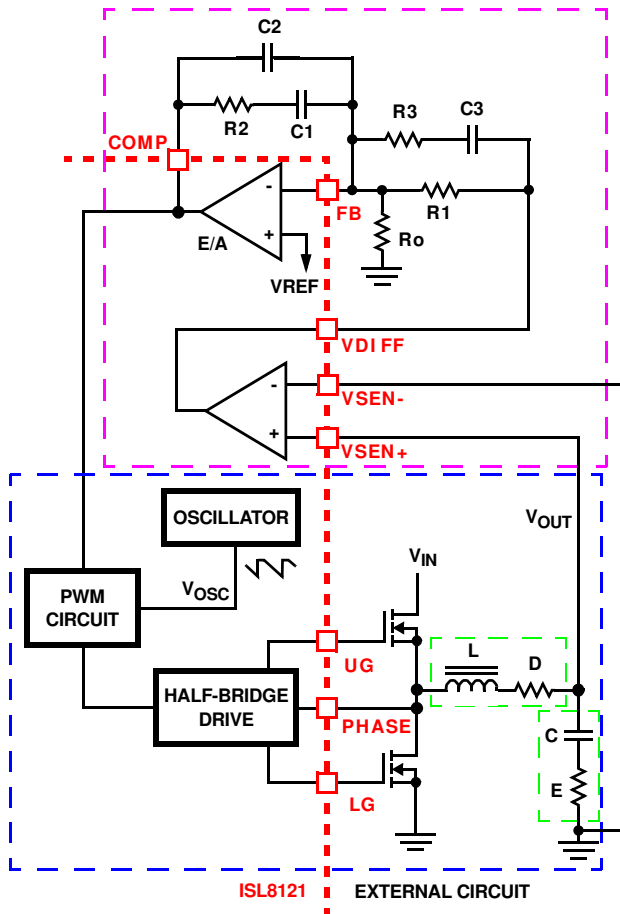

FIGURE 24. VOLTAGE-MODE BUCK CONVERTER COMPENSATION DESIGN
Figure 24 highlights the voltage-mode control loop for a synchronous-rectified buck converter, applicable, with a small number of adjustments, to the multi-phase ISL8121 circuit. The output voltage (V_{OUT}) is regulated to the reference voltage, VREF, level. The error amplifier output (COMP pin voltage) is compared with the oscillator (OSC) modified saw-tooth wave to provide a pulse-width modulated wave with an amplitude of V_{IN} at the PHASE node. The PWM wave is smoothed by the output filter (L and C). The output filter capacitor bank's equivalent series resistance is represented by the series resistor E.
1. Select a value for R1 (1kΩ to 5kΩ typically). Calculate value for R2 for desired converter bandwidth (F_0). If setting the output voltage via an offset resistor connected to the FB pin, Ro in Figure 24, the design procedure can be followed as presented. However, when setting the output voltage via a resistor divider placed at the input of the differential amplifier, in order to compensate for the attenuation introduced by the resistor divider, the obtained R2 value needs be multiplied by a factor of $(R_P + R_S)/R_P$. The remainder of the calculations remain unchanged, as long as the compensated R2 value is used.